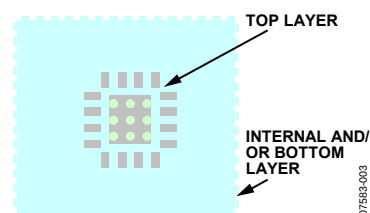

Figure 3. Heat Sink Layout
1. Place nine vias onto the thermal pad of the amplifier. The outer diameter of the vias should be 0.5 mm and the inner diameter is 0.33 mm. If there are internal layers available in the PCB, allocate an area as large as possible as the ground planes and let these vias be connected to the planes (see Figure 3). If internal layer are available, allocate a certain area as a heat sink, and make sure to connect the vias conducting the heat to the internal layers.